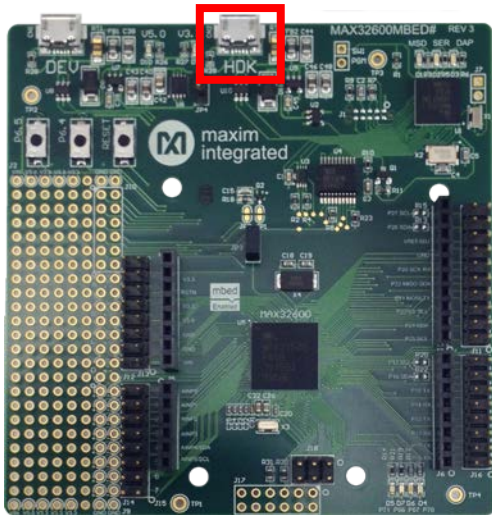

Figure 7. Connect the MAX32600MBED to a computer using the HDK USB port.
6. Connect the MAX32600MBED to the computer using the HDK USB port for programming (Figure 7).